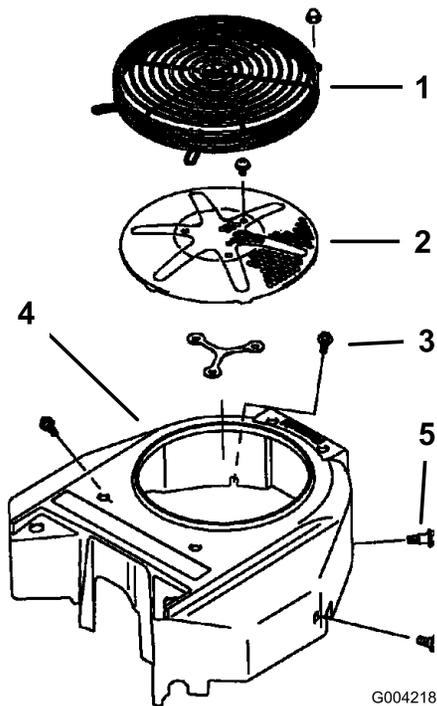

Figure 73
3. Remove the air-intake screen, the recoil starter, and the fan housing (Figure 73).
5. Install the air-intake screen, the recoil starter, and the fan housing (Figure 73).